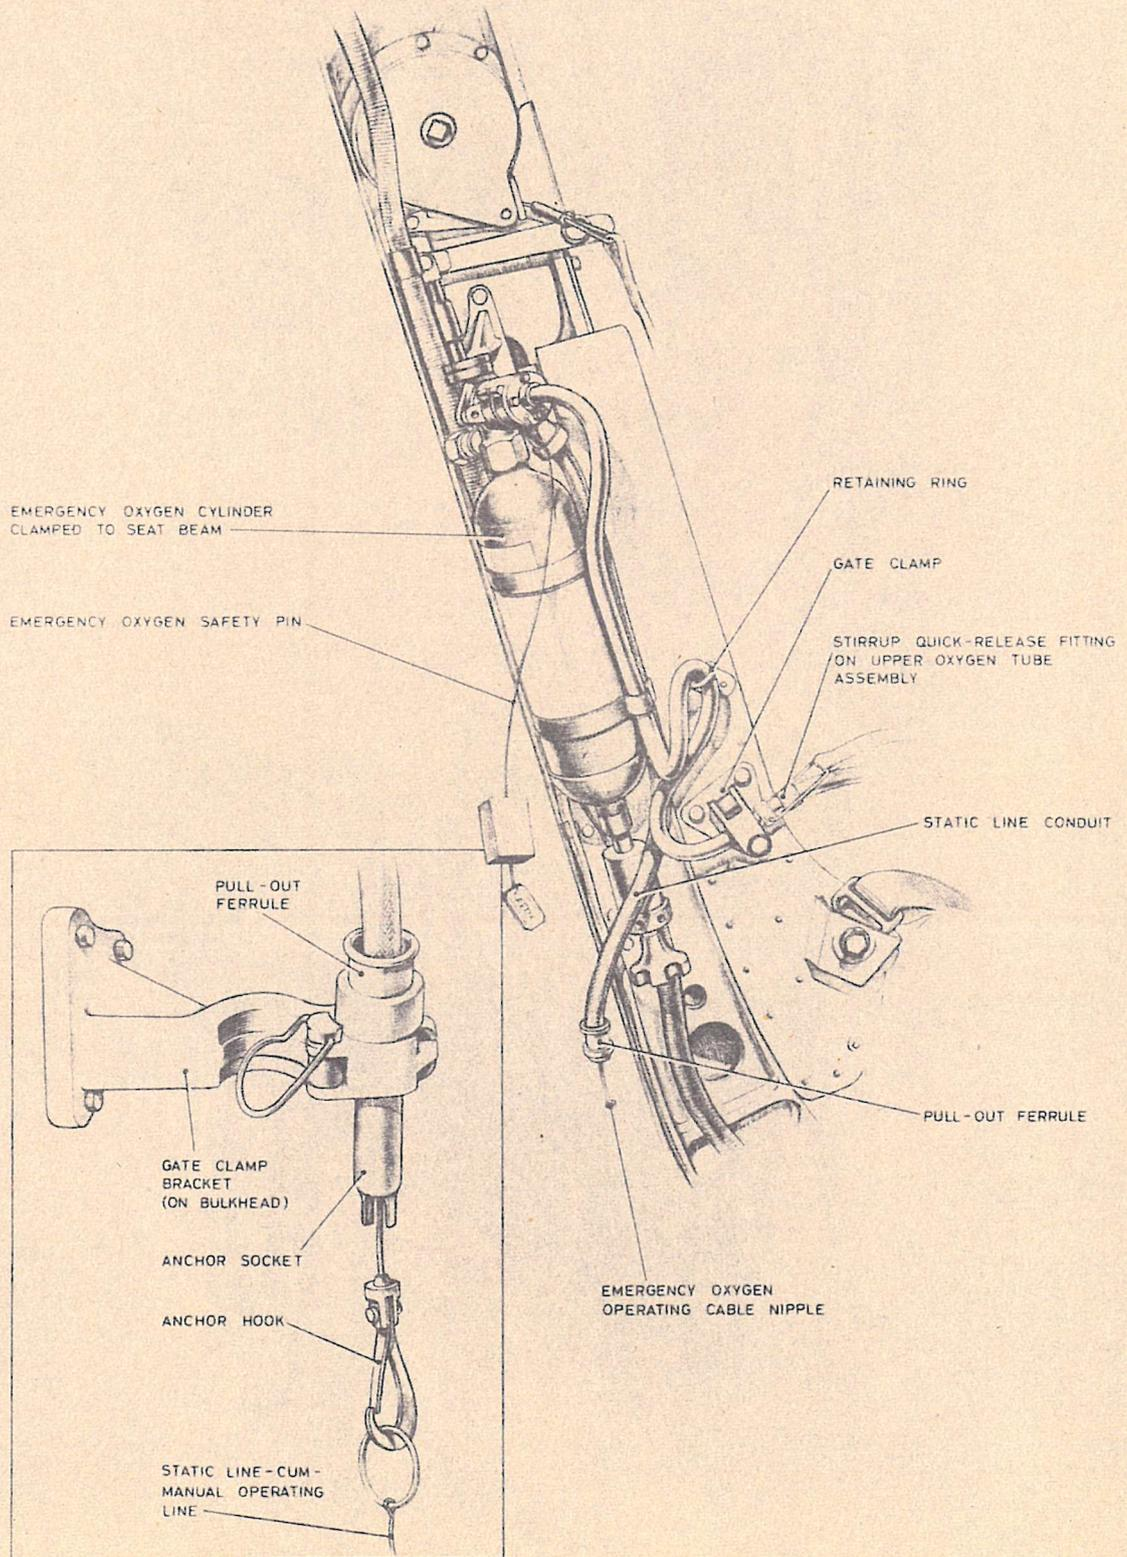

Fig. 1. Arrangement of emergency oxygen supply (inset: Anchor socket on bulkhead)
21. The following procedure is to be used when equipping the seat: refer to fig. 1 to 3 for detail as necessary :-
- (4) Connect the nipple on the end of the emergency oxygen cylinder operating cable to the anchor section of the static line mounted on the bulkhead at the rear of the seat (see inset of fig. 1). Engage the pull-out ferrule in the anchor socket.
- (5) Connect the anchor hook to the static line-cum-manual operating cable.
- (6) Unfasten the safety harness and clear the straps from the seat pan.
- (7) Place the parachute pack in the seat pan with the closure flaps upwards. Tension the apron against its clips and connect the two halves of the parachute withdrawal line coupling.
- (8) Re-arrange the parachute pack in the seat pan correctly (with the flaps downwards), and ensure that the webbing strap of the upper oxygen tube stirrup quick-release fitting is correctly attached to the parachute harness. Raise the safety harness shoulder straps off the back of the seat and place the parachute harness back pad against the seat back rest.
- (9) Insert the sticker strap lugs in the spring clips on each side of the seat.
- (10) Insert the upper oxygen tube into the stirrup of the quick-release fitting, and engage the fitting with the emergency oxygen supply tube at the clamped end.
- (11) Place the personal survival pack on top of the parachute pack with the lanyard towards the starboard side. Arrange the survival pack side quick-release couplings to drape over either side of the seat.
- (12) Draw the leg loop of the parachute harness out from under the survival pack so that it lies on the seat cushion. Arrange the parachute harness waist